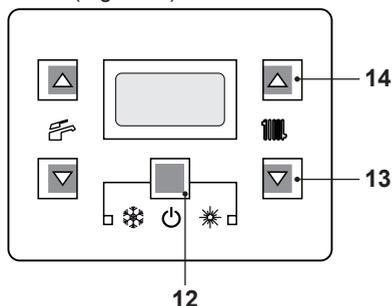
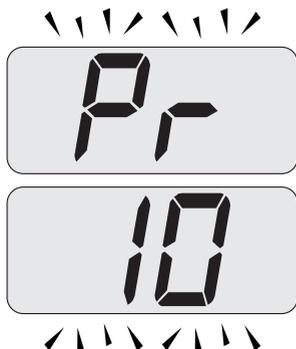

Fig. 8.22
Fig. 8.24
- Enter the "programming mode" by sequentially pressing keys 12 - 13 - 14 (Fig. 8.22) for 10 seconds at the same time until the letters **Pr** that alternate with code **01** are displayed on the LCD display, indicating that "param-
- Scroll the various parameters using keys 13 or 14 until the letters **Pr** that alternate with code **10** are displayed on the LCD display, indicating that "parameter 10" (Fig. 8.24) has been activated.
- Press keys 12 and 14 (Fig. 8.22) at the same time until the value of parameter 10 (30=180 seconds) is displayed on the LCD display (Fig. 8.25).
- By pressing key 12 (Fig. 8.22) confirmation of the inserted value is obtained.
- Press keys 12 and 13 (Fig. 8.22) at the same time to exit without changing the value (return to the parameters list Fig. 8.24).
- Press sequentially keys, 12 - 13 and then 14 (Fig. 8.22) and hold in for 10 seconds to exit the "programming mode".